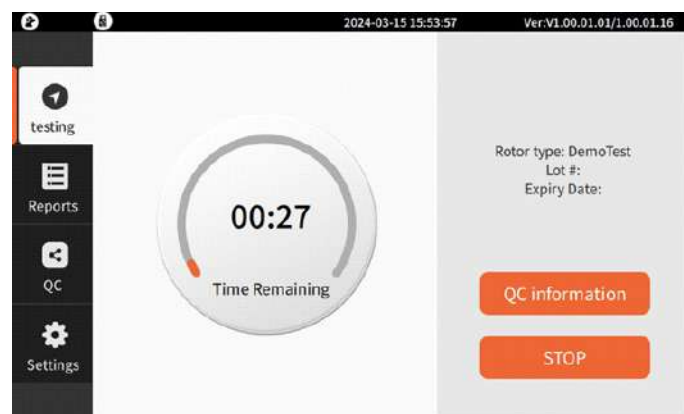

Figure 5-5
- 4) Press "CONFIRM", the drawer will be closed and the analyzer will read the QR code and then enter into testing screen. Please see Figure 5-5.